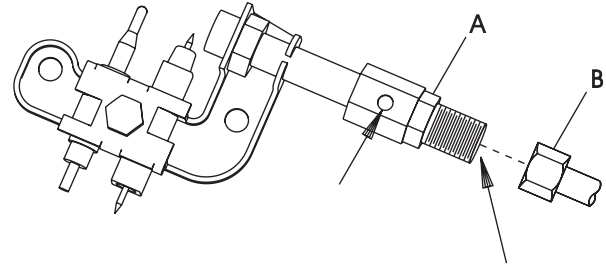

Figure 12
Oxygen Depletion Sensor Pilot (Figure 12)
5. Disconnect pilot tubing from pilot (see Figure 12, Page 14). Grasp nut A with a wrench when removing nut B with a second wrench.